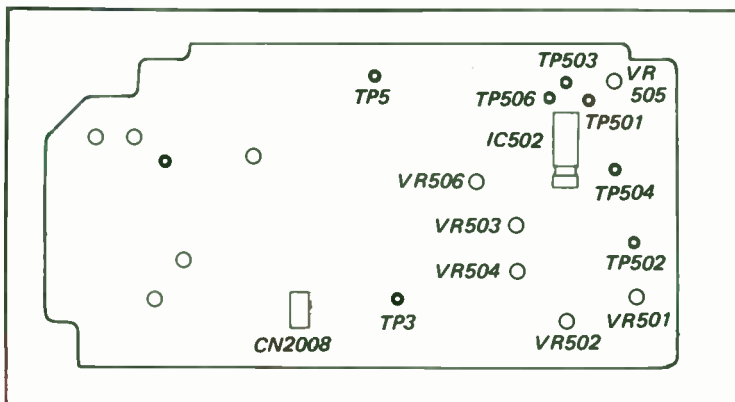

Fig. 4-10. Test point location on ARS board, component side.
Alignment sequence is as follows (Fig. 4-10):
- 3—Connect a frequency counter to TP502. See (Fig. 4-10).
- 6—Re-connect the CN2008 connector removed in step (1) after these checks.